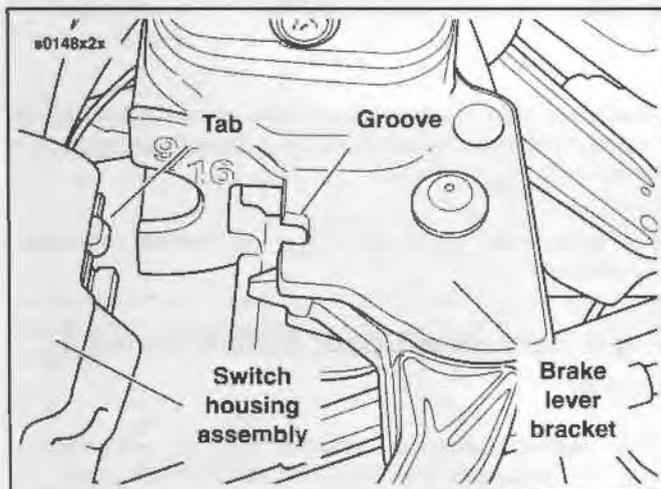

Figure 8-65. Fit Brake Lever/Master Cylinder to Right Handlebar Switch Housings
9. See Figure 8-65. Position the brake lever/master cylinder assembly inboard of the switch housing assembly, engaging the tab on the lower switch housing in the groove at the top of the brake lever bracket.